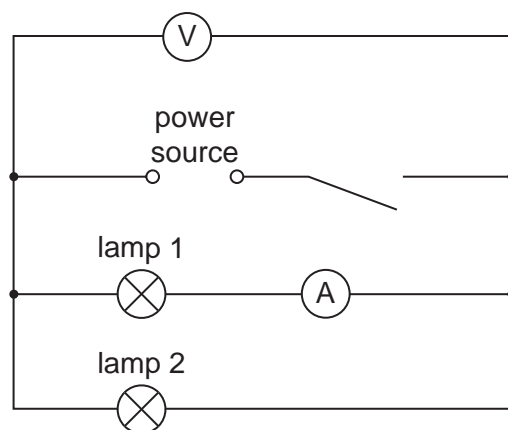

Fig. 3.1
- (vi) Sufficient connecting leads to construct the circuit shown in Fig. 3.1
1. The components should be connected as shown in Fig. 3.1.
Action at changeover: reconnect the circuit as shown in Fig. 3.1.